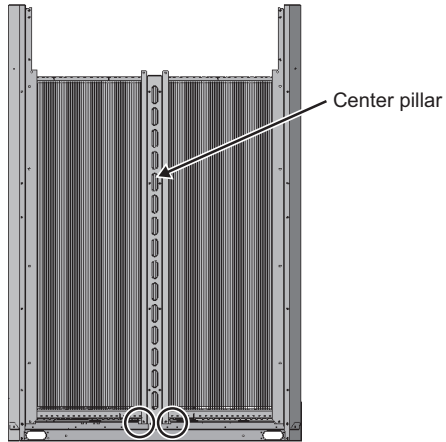

Fig. 55 Rear
(3) Remove the center pillar. (Two screws: Fig. 55)